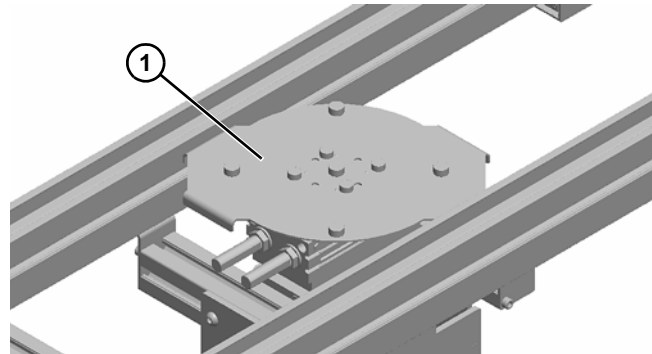

Figure 54
4. Place lift and rotate plate (**Figure 54, item 1**) back onto lift assembly.